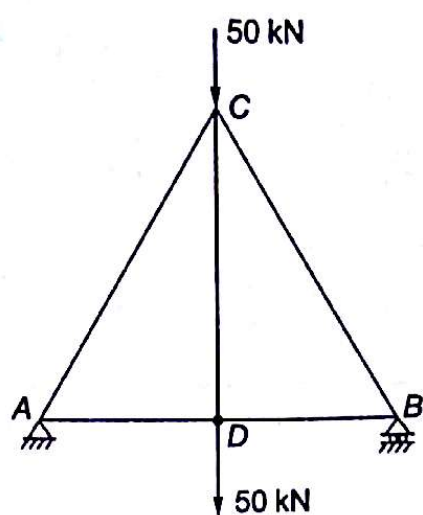

Fig. 4.53
4.24 The force induced in the vertical member CD of the symmetrical plane truss shown in Fig. 4.53 is